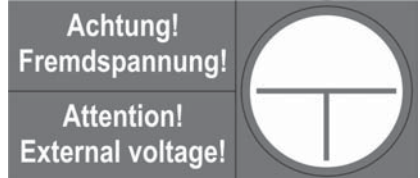

Fig. 11
- When working on the emergency luminaire first cut off mains (charging phase and L') and interrupt battery operation. Fig. 11 shows the indication label on the emergency luminaire.*
The wire guard should be firmly attached to the wall centrally in front of the luminaire using the four lugs and four screws of the appropriate size (Fig.11).